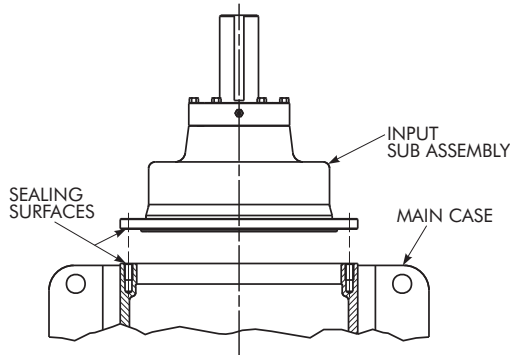

FIGURE 9
6. MOUNTING INPUT SUB-ASSEMBLY TO MAINCASE/ADAPTER; REFERENCE FIGURE 9.